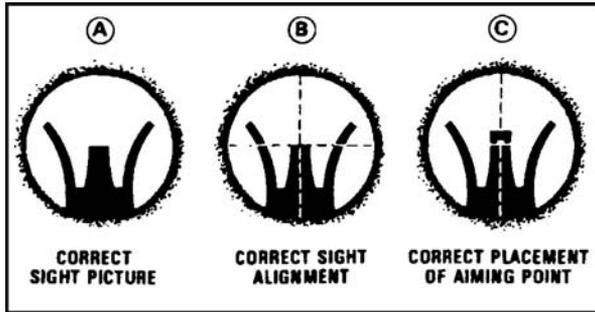

Figure 071-311-2030-2. Sight pictures
- (1) Align the index mark on the 0-2 aperture with the centerline on the windage scale and the mark on the receiver.
- (2) Rotate the elevation knob down until the range scale mark "8/3" is aligned with the mark on the left side of the receiver.
- (3) Rotate the elevation knob one click clockwise past the "8/3" mark.
4. Establish the sight picture (figure 071-311-2030-2).
- (1) Center the top of the front sight post in the center of the rear sight (A in figure 071-311-2030-2).
- (2) Draw an imaginary horizontal line through the center of the rear aperture so that the top of the front sight post touches the line (B in figure 071-311-2030-2).